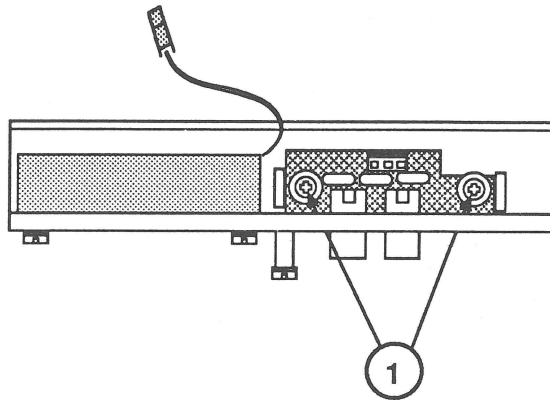

FIGURE 14
4. Remove the two screws (Figure 14, #1) that secure the rear audio board to the fan frame and lift the rear audio board free.
2. Replace the two screws (Figure 14, #1) that secure the rear audio board to the fan frame.